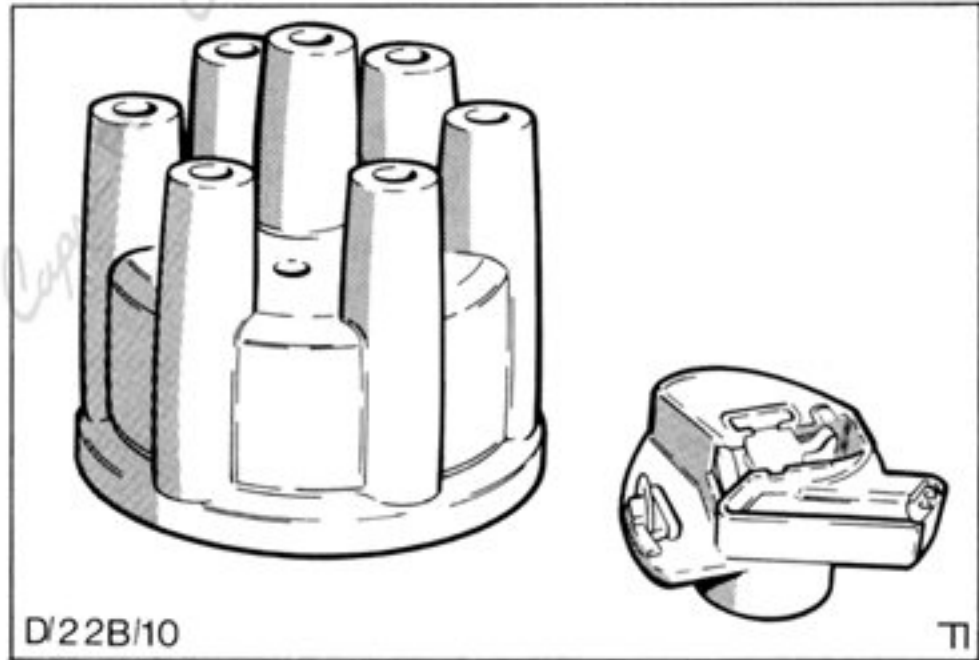

Fig.31. Check distributor cap and rotor arm for hairline cracks, damage or excessive arcing.
8. Inspect distributor cap for hairline cracks and connections for wear or burning, paying particular attention to the centre carbon pick-up in cap, Fig.31. Clean cap and refit. Reconnect HT leads to spark plugs.